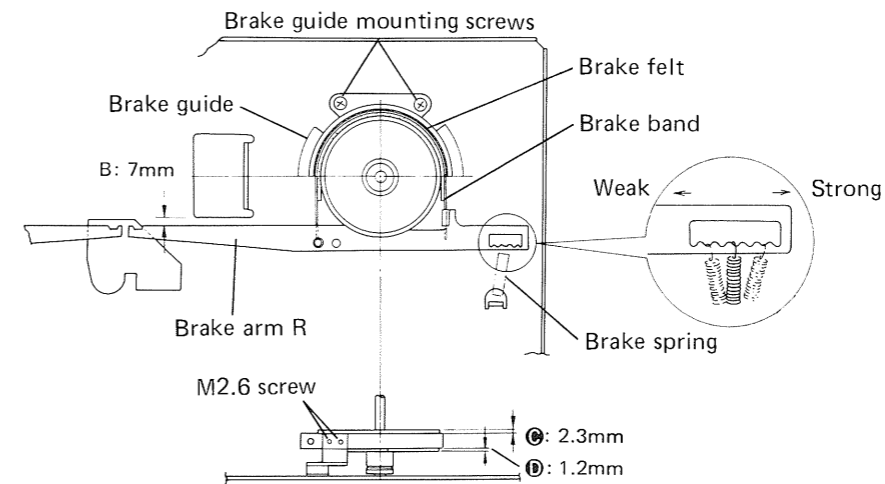

Fig. 23
1. Are dimensions ⑤ and ⑥ shown in Fig. 23 as specified when the brake is applied (solenoid attracted)? When outside the specified dimensions, loosen and readjust the M2.6 screw.
2. Is the brake guide mounted so that the brake drum and brake felt are uniformly separated when the brake is released (when the shaft of the solenoid is pushed by hand) after the check of item 1 above?
2. Hook a tension gauge to the end of the string and pull in direction B (C) and read the value indicated at the tension gauge when the reel base begins to turn.
3. Adjust the hooking position of the brake spring shown in Fig. 23 so that this value becomes $300 \sim 400\text{g}$ (torque = $900\text{g}\cdot\text{cm} \sim 1200\text{g}\cdot\text{cm}$).
5. Confirm that the following relation is established between the above measured value and the value measured when the tension gauge is pulled in direction D (A).